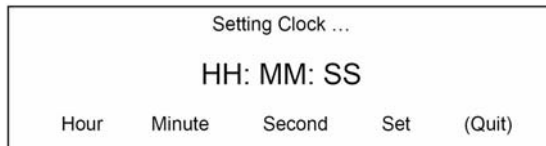

FIG. 76 Setting the System Clock on the Tango Audio Controller
2. Select **Set Time** to display the following screen (FIG. 76):